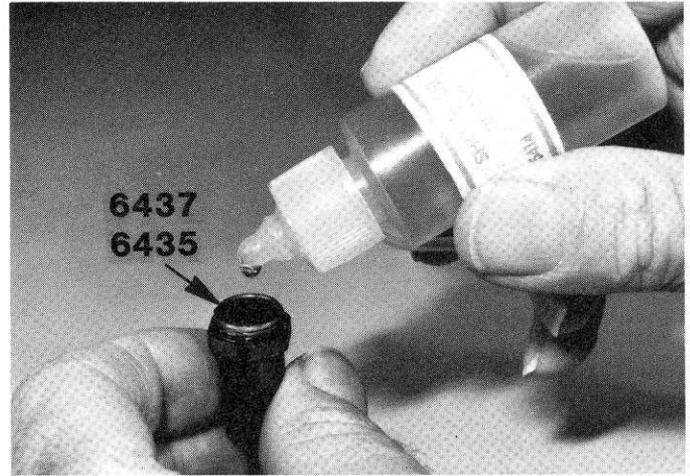

Fig. 95
□ **Fig. 95** Put a few drops of oil into the #6437 front and #6435 rear shock bodies to make assembly easier also. We don't want to cut the red O-rings on assembly.